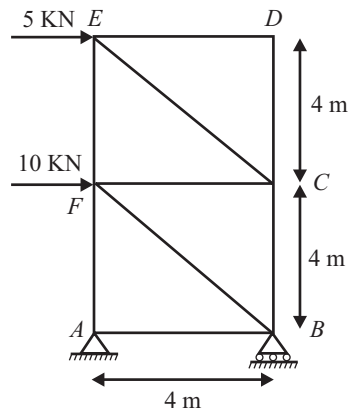

Fig. 13.32
Q. 14: Find out the axial forces in all the members of a truss with loading as shown in fig 13.32. (May-02 (C.O.))